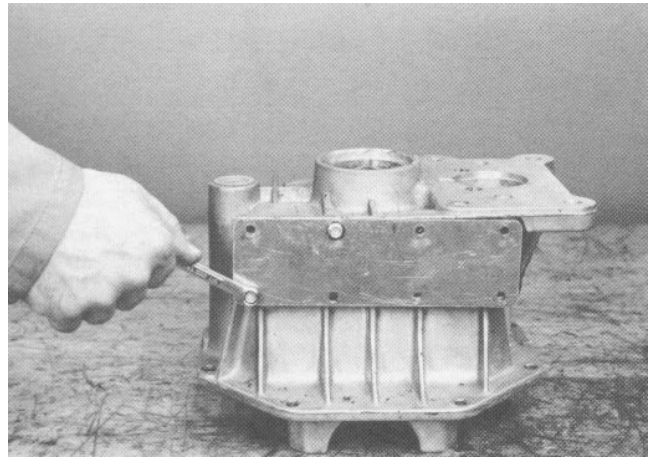

Figure 27
9. Remove the eight side cover capscrews. Remove the the side cover from the carrier assembly (Fig. 27). Clean the gasket material from the mating surfaces before reassembly.